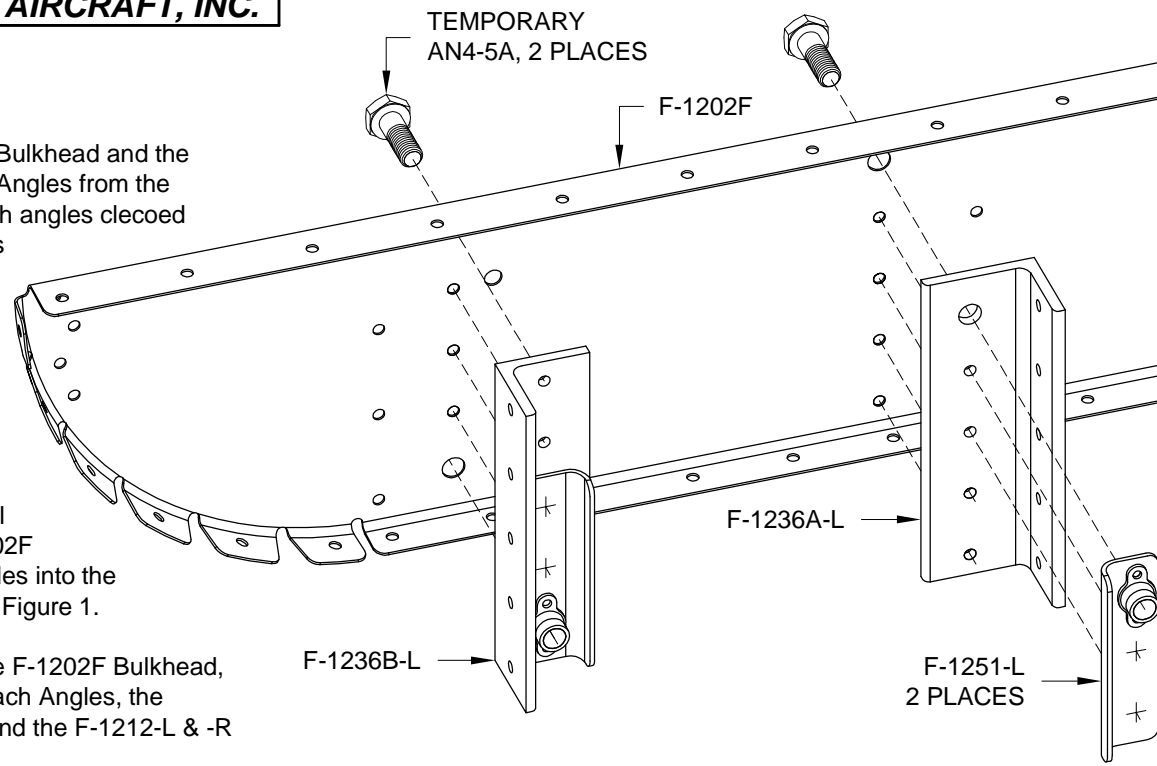

FIGURE 1: RIVETING THE STEP ATTACH ANGLES
Step 1: Remove the F-1202F Bulkhead and the F-1236A-L & B-L Step Attach Angles from the fuselage. (Keep the step attach angles clecoed to the bulkhead.) Use the bolts shown in Figure 1 to secure the F-1251-L Nutplate Brackets to the step attach angles and bulkhead.
Step 2: Align the F-1251-L Nutplate Brackets vertically on the F-1236A-L & B-L Step Attach Angles, then match-drill #30 the two holes of the F-1202F Bulkhead and step attach angles into the nutplate brackets as shown in Figure 1.